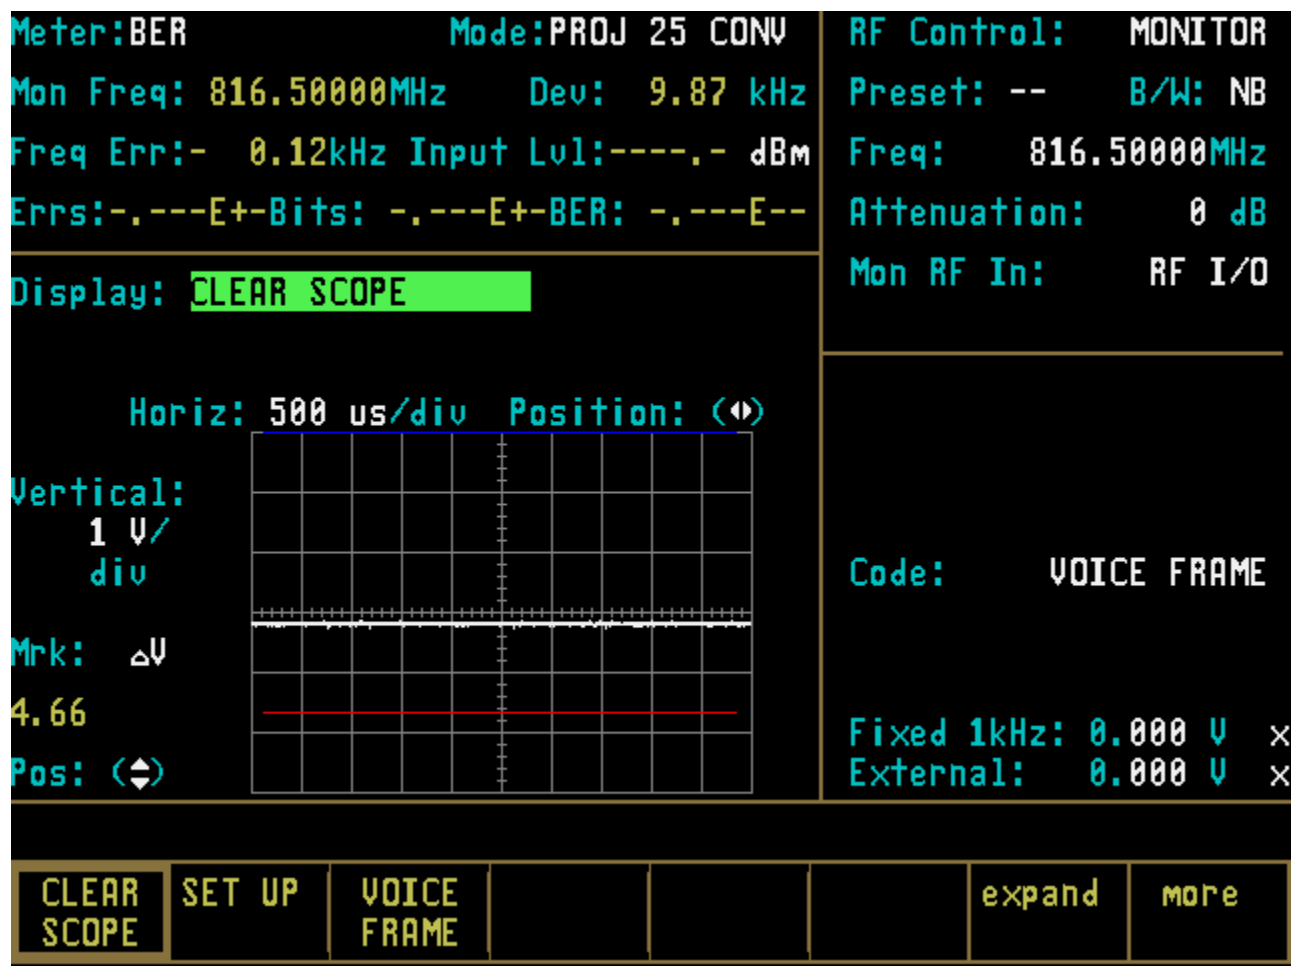

Figure 22-3. PROJ 25 CONV CLEAR SCOPE Display of Recovered Audio
7. Place cursor in the "Display:" field and press **CLEAR SCOPE** softkey. The CLEAR SCOPE screen should appear similar to Figure 22-3. No waveform is present until the transmitter is turned on.